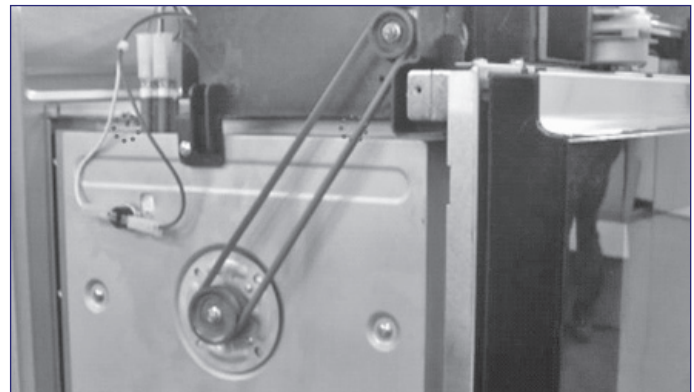
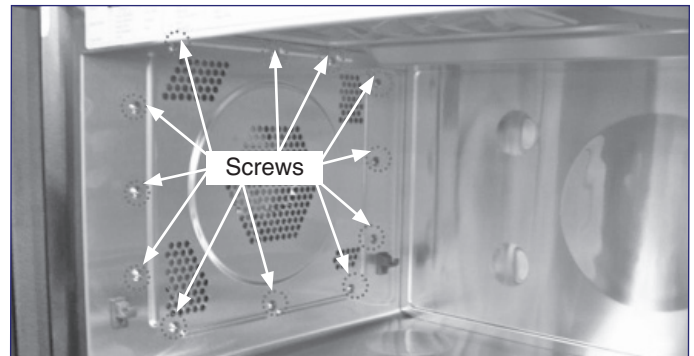

Figure 4-22. Convection Motor Belt
Figure 4-23. Convection Fan Assembly Removal
3. Remove rubber belt. (See Figure 4-22)
4. Remove (2) screws securing the convection motor assembly (Assy-guide air).
7. Remove (4) outside screws and (12) inside screws. (See Figure 4-23 and 4-24)